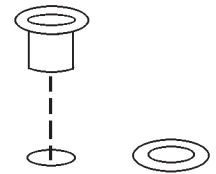

FIG. 2
2. Push the small brass eyelets into the other holes (from the front side of the instrument). They will prevent the strings from cutting into the wood. (fig. 2)